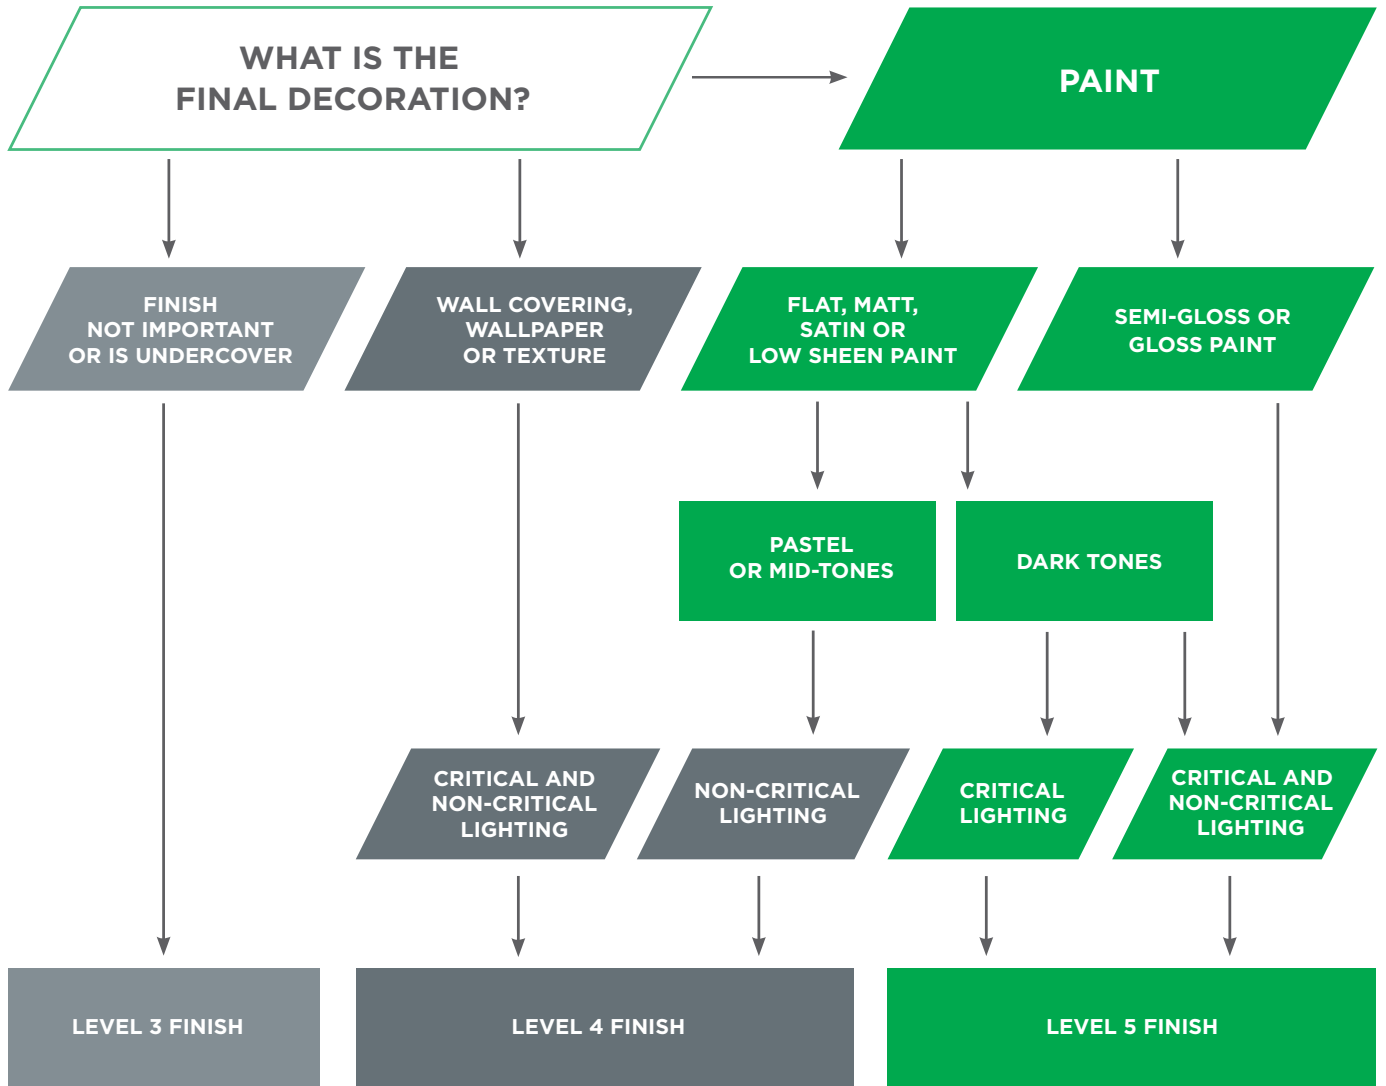

Figure 1: Levels of Finish
It is essential that the level of finish is determined at the design stage since each level has specific requirements for substrate tolerances and plasterboard installation, jointing and finishing. The desired level of finish may not be achieved unless all of these requirements are met through various stages of construction. Levels of finish recommended for various lighting conditions and surface decorations are shown in Figure 1, page 5.
- Gloss, semi-gloss or deep tone paints are not recommended for Level 4 finish, as they accentuate surface variations, refer to Figure 1.